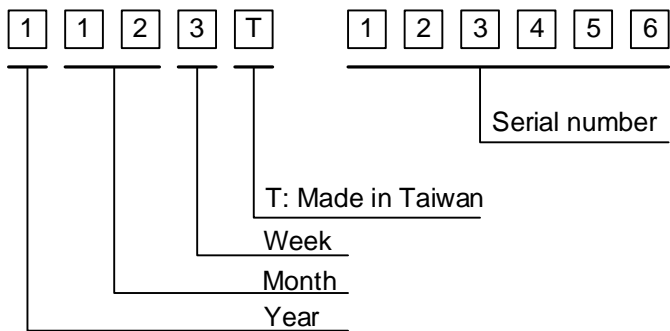

Fig. 14.1
1) The lot mark is showing in Fig.14.1. First 4 digits are used to represent production lot, T represented made in Taiwan, and the last 6 digits are the serial number.